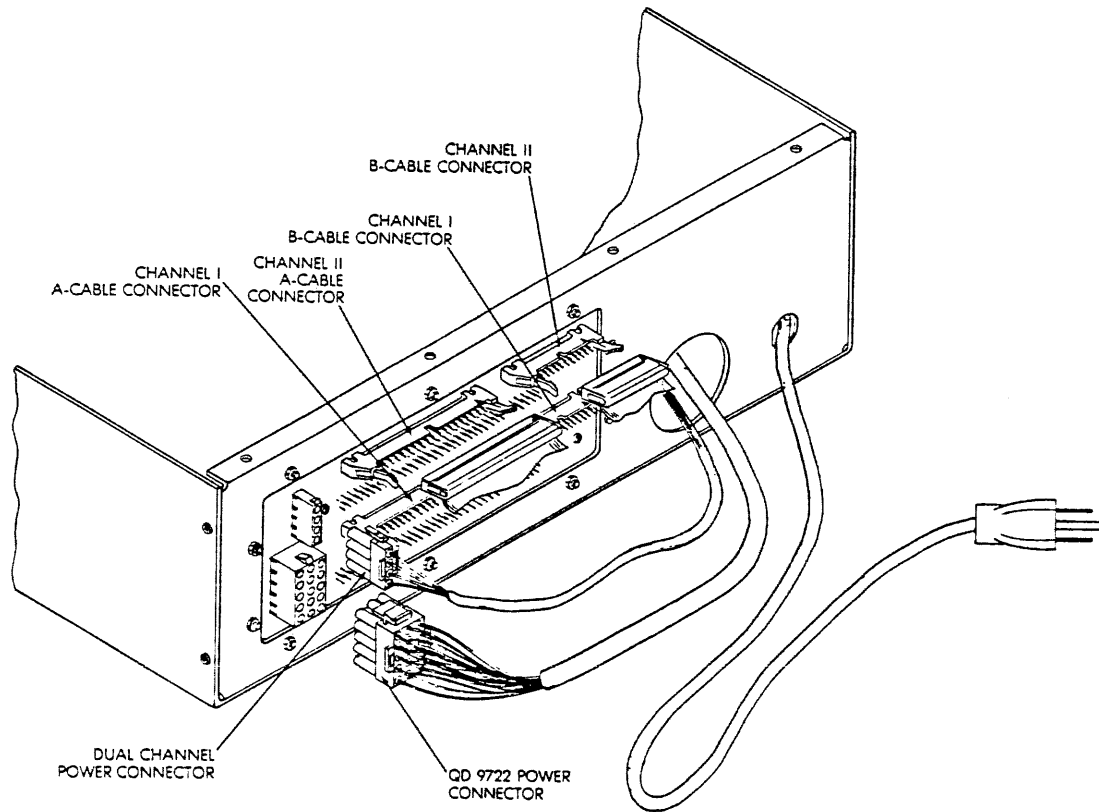

Figure D-1. Quick Disconnect (Rear View)
At the rear of the chassis is the backplane that interfaces the power and signal cables to the drive (Figures D-1 and D-2). The drive's power supply is mounted on the left side of the chassis.
The cables might have been packed separately, in which case they will have to be mounted on the dual channel PCB as shown in Figure D-1.
7. Pass the cables under the board, keeping them correctly oriented as shown in Figure D-1. The cables should extend a few inches beyond the edge of the card.
8. Using two number six screws mount the dual option board on the cover plate of the drive interface board. Orient the board as shown in Figure D-1.
10. Connect the 14-conductor interface cables from the dual channel PCB to the drive interface board. Loop the ends of the cables back to meet the headers on the interface board (Figure D-1). The dual channel PCB interface headers are designated S3, S1, S4, S2. Connect the cables to their corresponding headers on the drive interface board as follows: